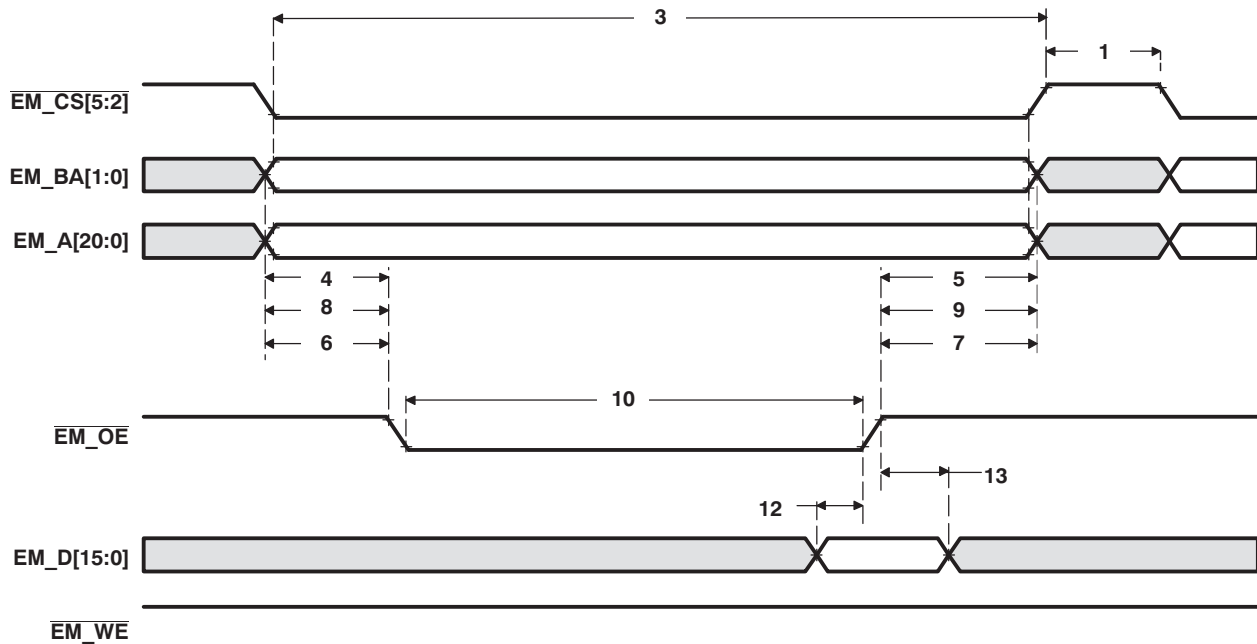
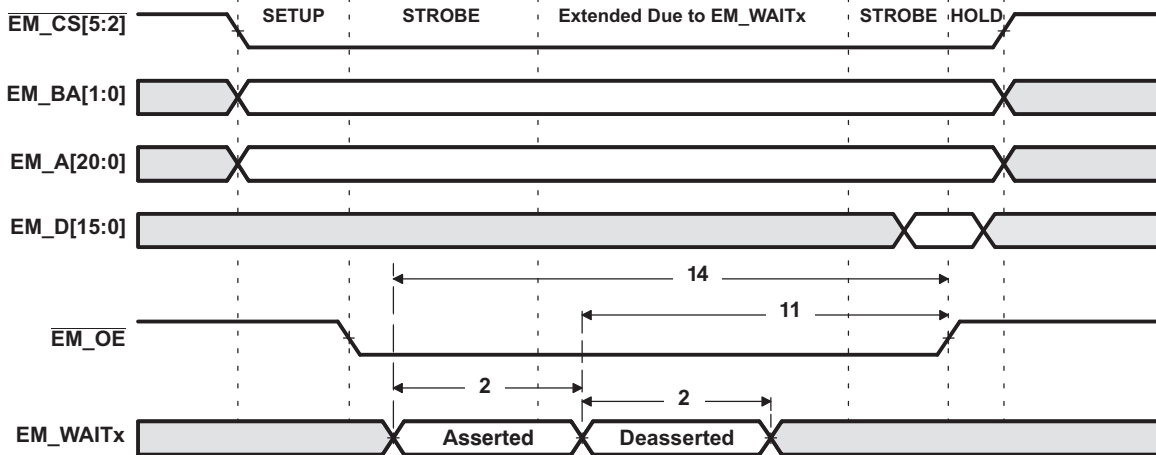
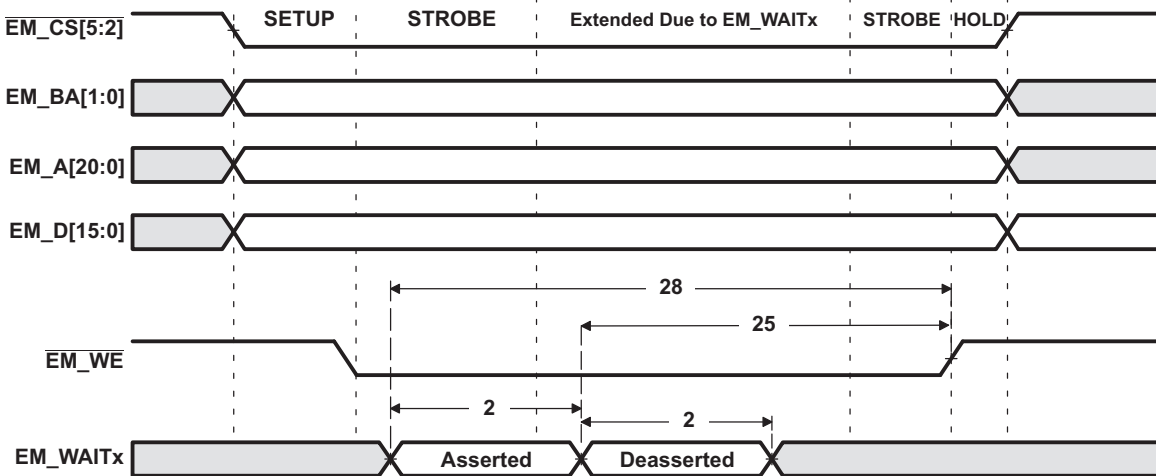

Figure 5-24. Asynchronous Memory Read Timing for EMIF
Figure 5-26. EM_WAITx Read Timing Requirements
Figure 5-27. EM_WAITx Write Timing Requirements
- (1) Timing parameters are obtained with 10pF loading on the EMIF pins.
- (2) E = SYSCLK period in ns. For example, when SYSCLK is set to 75 or 200 MHz, E = 13.33 or 5 ns, respectively.
- (3) Setup before end of STROBE phase (if no extended wait states are inserted) by which EM_WAITx must be asserted to add extended wait states. Figure 5-26 and Figure 5-27 describe EMIF transactions that include extended wait states inserted during the STROBE phase. However, cycles inserted as part of this extended wait period should not be counted; the 4E requirement is to the start of where the HOLD phase would begin if there were no extended wait cycles.
(see Figure 5-24, Figure 5-26, and Figure 5-27)
(see Figure 5-24, Figure 5-26, and Figure 5-27) (continued)
⁽⁴⁾ (see Figure 5-24, Figure 5-26, and Figure 5-27)
⁽⁴⁾ (see Figure 5-24, Figure 5-26, and Figure 5-27) (continued)**